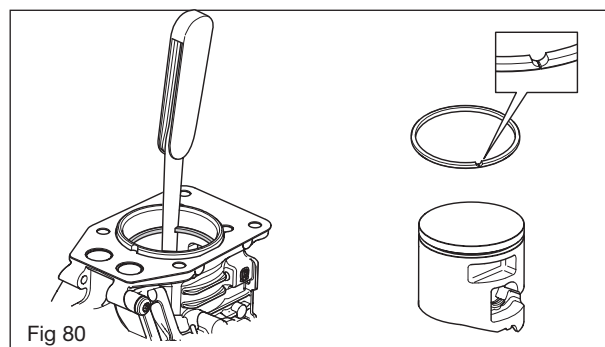

Fig 80
- Remove the piston ring from the piston to measure the wear. Use the base of the piston to push the piston ring down into the cylinder. The opening in the ring must not exceed 1 mm. Put the piston ring back into the piston slot and make sure it is the right way around. See Figure 80.